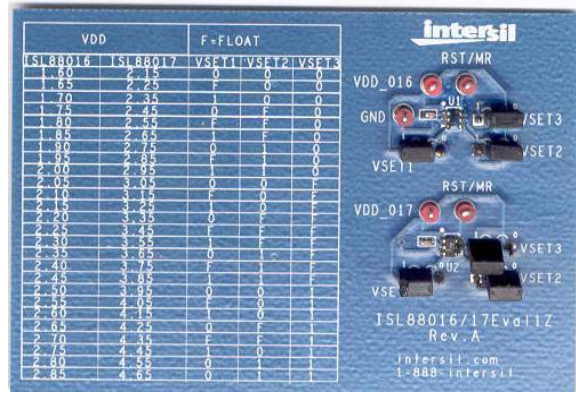

FIGURE 5. ISL88016/17EVAL1Z PHOTOGRAPH
The ISL88016/17EVAL1Z platform is provided with both an ISL88016 in the top and an ISL88017 in the bottom positions. Each IC is default programmed to VSET1, VSET2 and VSET3 = FLOAT but provided with jumpers to change the V_{th} level by individually connecting the three VSET pins to either V_{DD} (1) or GND (0). To the left of the circuits is a VSET programming table for easy reference. Provide adequate bias to V_{DD} to deassert RESET signal. See Figure 4 for the ISL88016/17EVAL1Z schematic and Figure 5 for its photograph.